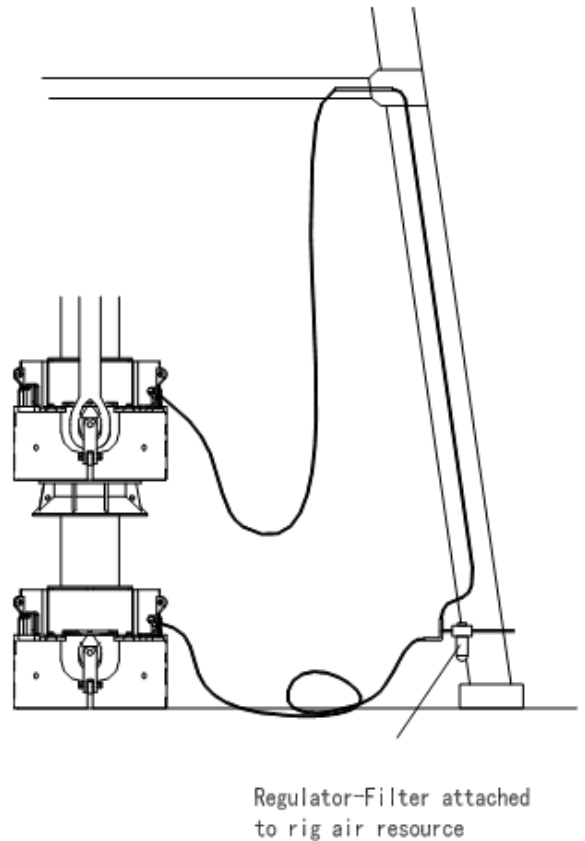

Figure 3-1
1. Refer to Figure 3-1 for typical installation.